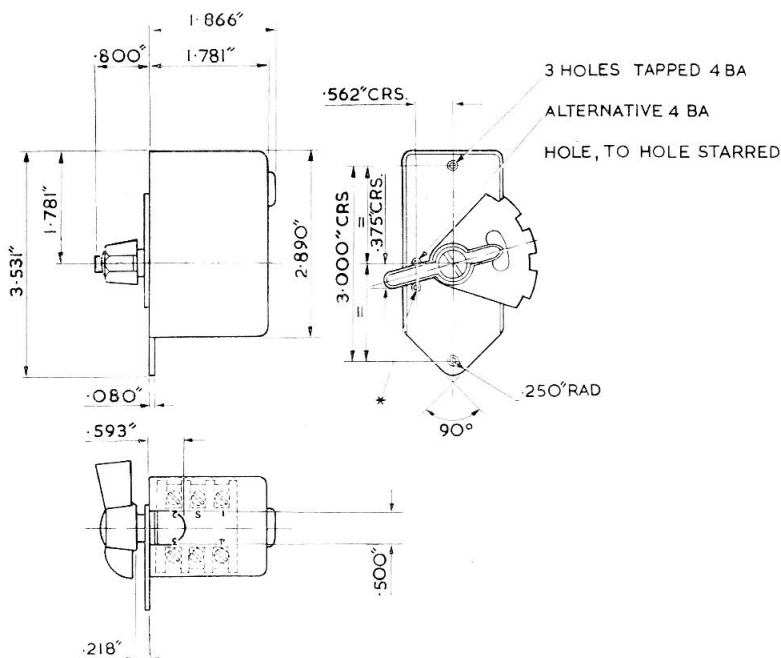

Fig. 3. Installation diagram
5. Three holes, tapped 4 B.A., are provided in the switch base plate for mounting. Two holes are on the main axis of the switches and are spaced 3.000 in. at centres, whilst the third hole (shown starred in fig. 3) is centred at a vertical distance of 0.562 in. from the main axis and offset 0.375 in. from the horizontal centre line. This applies to most units in the series; however, some units have an alternative hole as shown in fig. 3.
1. The D0422 manually-operated switch is similar to that described and illustrated in the main chapter except that the alternative 4 B.A. tapped fixing hole has been added to the mounting face. If it is required to use this alternative fixing hole, reference should be made to para. 5 and fig. 3 of the main chapter.